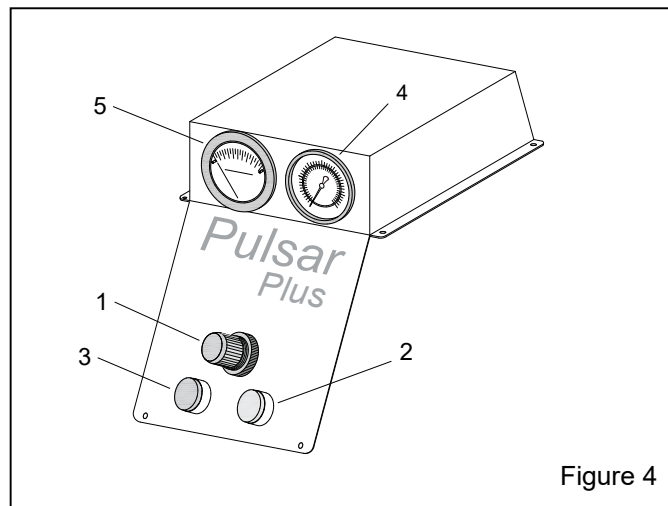

Figure 4
1.6 Control-Console Functions – Figure 4